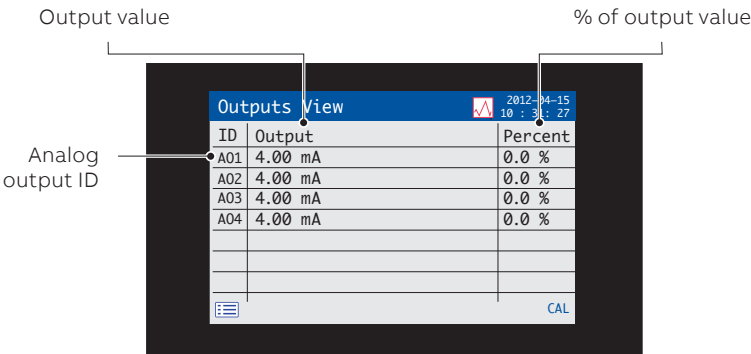

Fig. 6.8 Outputs View
- *Outputs View* – displays a list of alarms identified by analog output ID, output value and percentage of output value – see Fig. 6.8